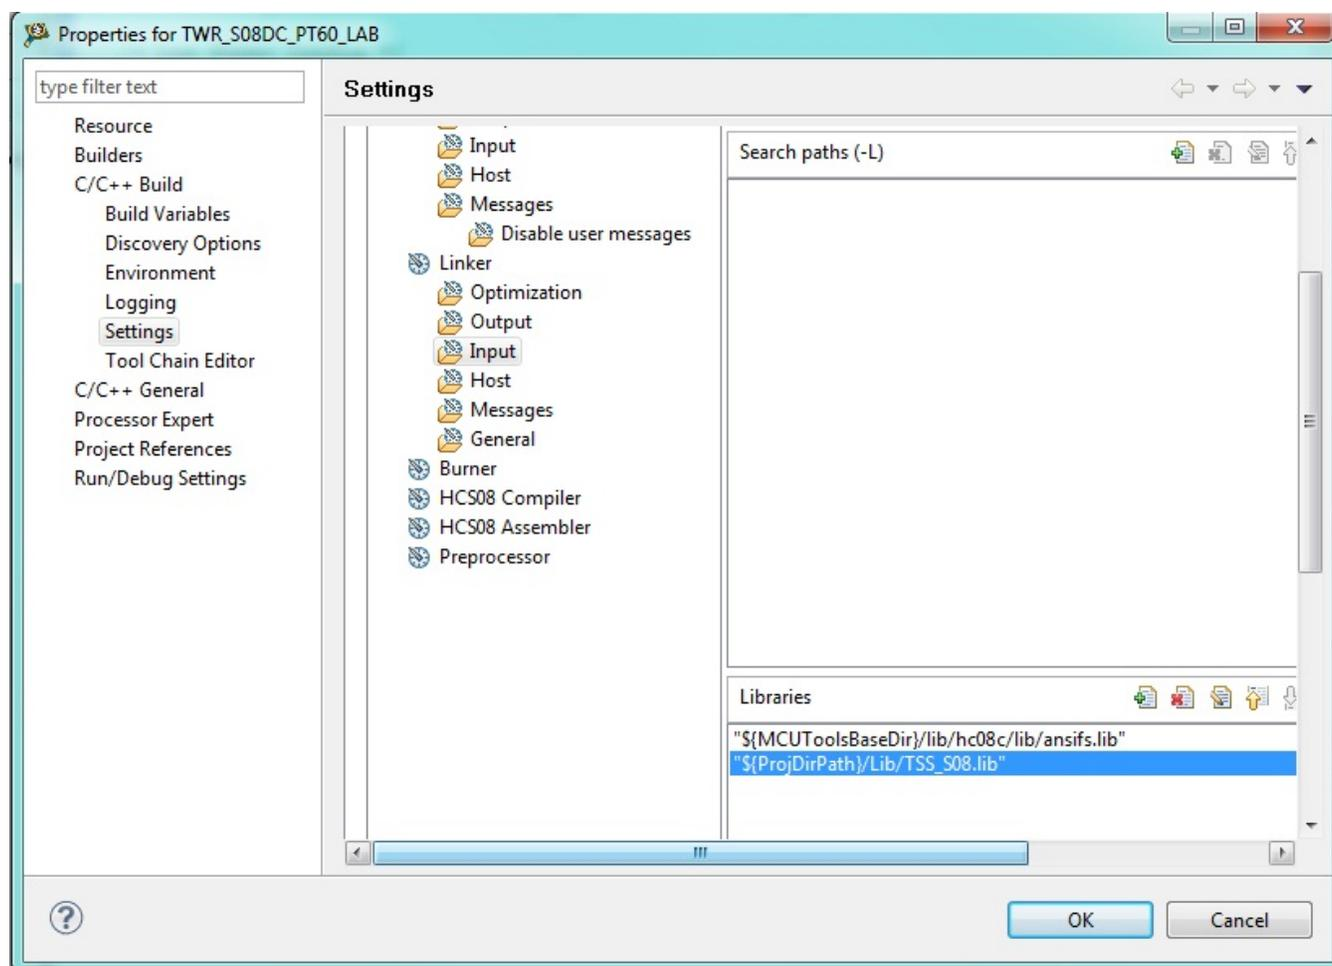

Figure 7. Add link library
- Set the link library. Choose File > Properties > C/C++ Build > Settings > Linker > Input, and then add TSS_S08.lib as link library. See Figure 7.